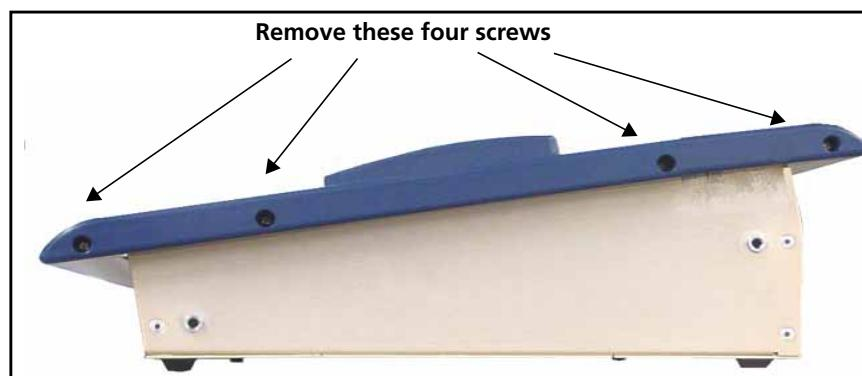

Figure 2-10 Removal of Trim for Rack Mounting
- 1 Remove the three or four screws on each side of the main control panel trim (see Figure 2-10)